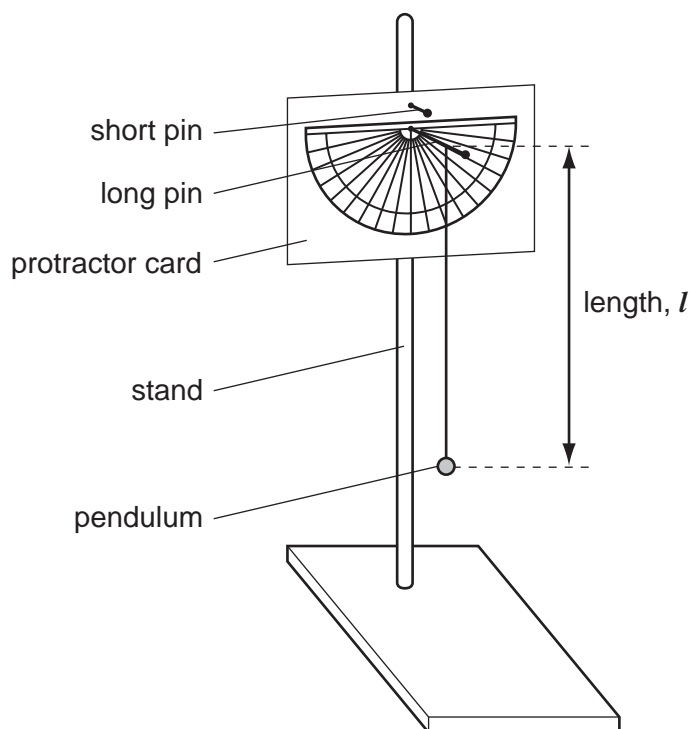

Fig. 3.1
- (a) Set up your pendulum as in Fig. 3.1, using the apparatus provided, such that the length,  $l$ , is 30 cm.